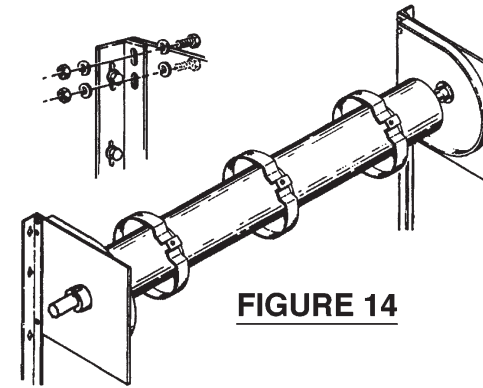

FIGURE 14
- Bolt heads must be on the inside of the headplate brackets. See Figure 14. Brackets may have 2 or 3 mounting slots.